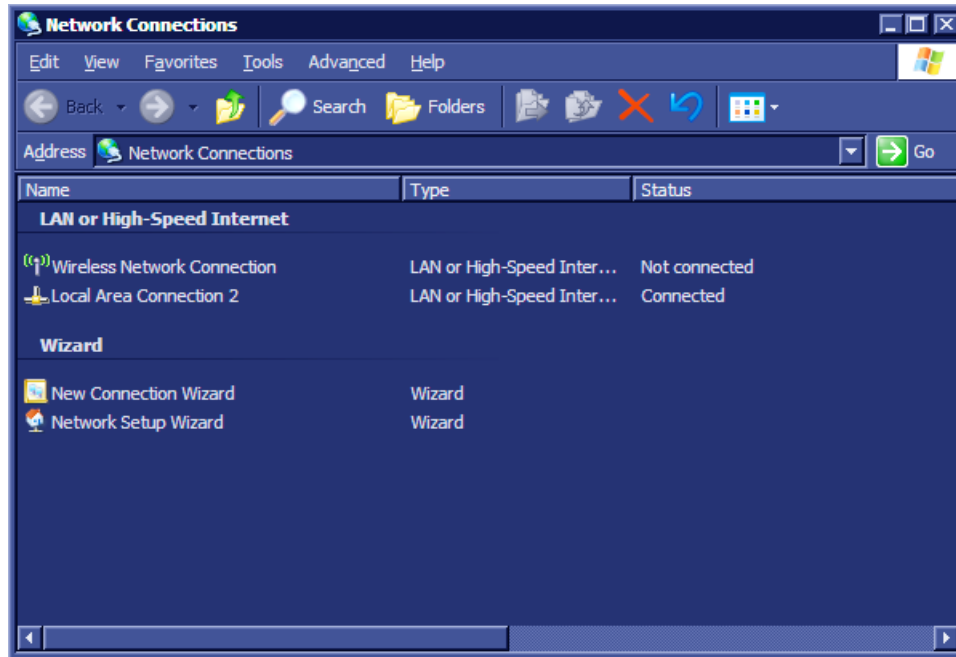

Figure 3-101 Network Connections
- 2.) Click **Advanced Settings** to open the Network Connections screen - see Figure 3-101.